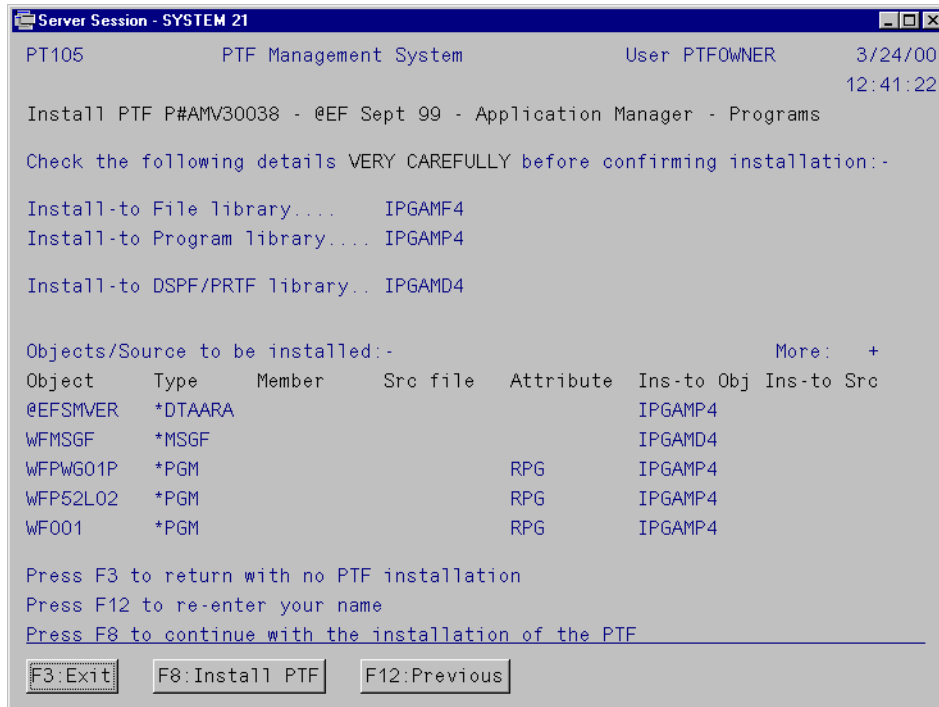

Figure 108. PTF installation details
8. Press Enter to continue with the installation. The display in Figure 108 on page 204 shows the list of objects that are installed.